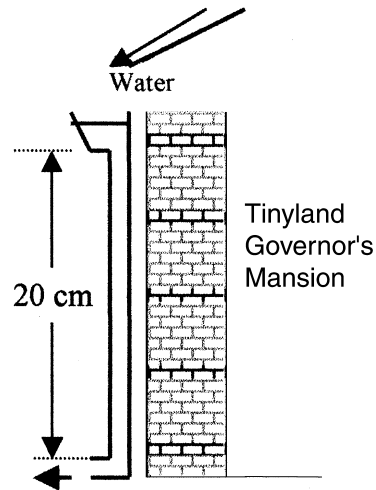

Fig. P6.21
**6.21** In Tinyland, houses are less than a foot high! The rainfall is laminar! The drainpipe in Fig. P6.21 is only 2 mm in diameter. (a) When the gutter is full, what is the rate of draining? (b) The gutter is designed for a sudden rainstorm of up to 5 mm per hour. For this condition, what is the maximum roof area that can be drained successfully? (c) What is  $Re_d$ ?